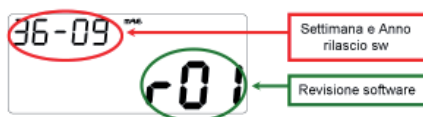
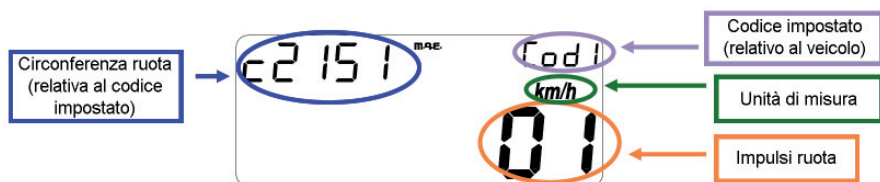

Fig. 17
Fig. 19
- 1st page (at every connection with vehicle battery): Software version and date of issuing (for approx. 3 seconds) (fig. 17).
- 3rd page (every time the instrument is switched on): Display of set parameters (fig. 19).
- Screens displayed as shown in fig. 17 and fig. 19 for approx. 3 sec.